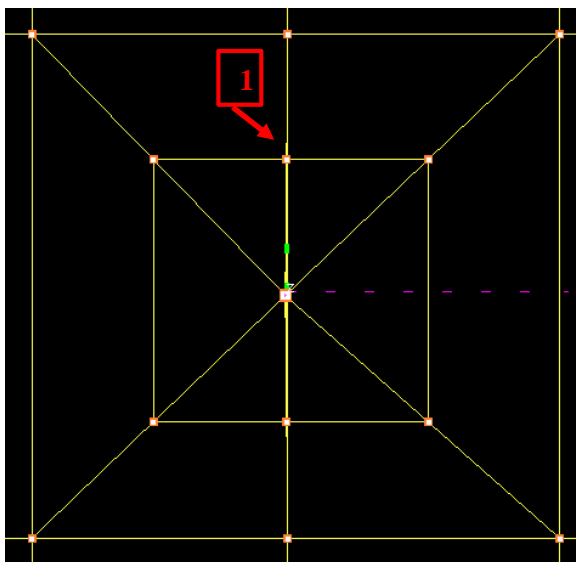

Figure 8.7
- Create an insert as shown in figure 8.7.